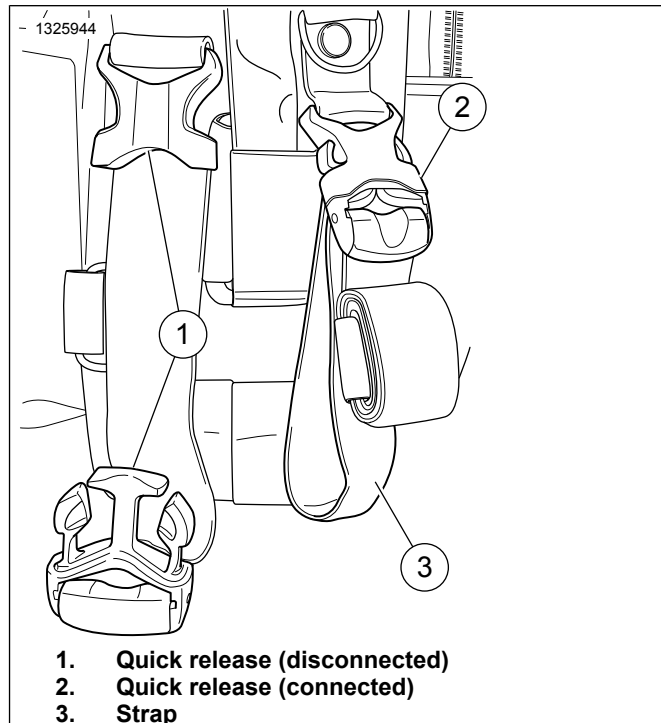

Figure 3. Quick Release Buckle
1. See Figure 3. Disconnect quick release buckles and clasps.